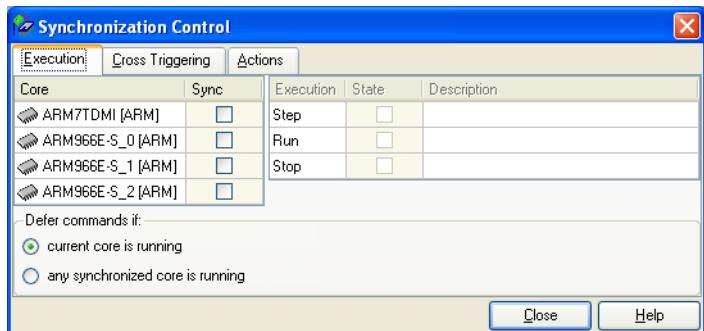

Figure 7-5 Execution controls in the Synchronization Control window
2. Click the **Execution** tab to display the execution controls. Figure 7-5 shows an example: